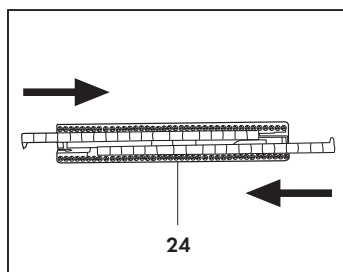

Fig. 9
To install the bristled frame for fitted and non-fitted carpets (24), introduce the stiff brushes into the appropriate guides with the tabs facing inwards (Fig. 9).